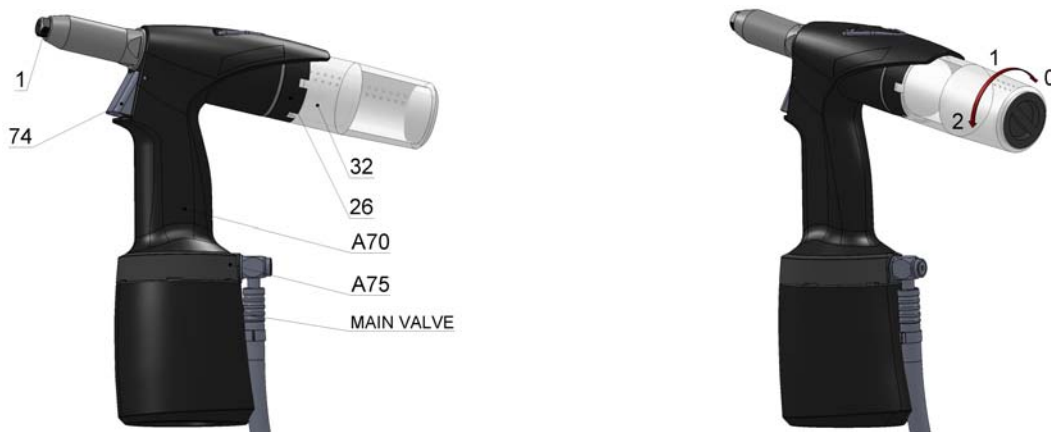

Fig.1
The manufacturer equipped the tool with a nose-piece /fig.1 – pos.1/ for a rivet Ø 6.4 monobolt. Riveting with blind rivets of different diameters (further on referred to as BR) requires use of appropriate nose-pieces /fig.1 – pos.1/ that are located in the accessories casing of the tool.
Replacement of nose-pieces: Connect the tool to the source of compressed air, depress the trigger and screw out the nose-piece /fig.1 – pos.1/ with a spanner no. 12. Screw on a new nose-piece /acc. to the chart/ and tighten it. Now you can release the trigger of the tool.
The tool is equipped with revolving air supply /fig.1 – pos.A75/ which enables manipulation with air supply before as well as during tool operation, air hose does not obstruct riveting in any position.
The tool is equipped with multifunction trigger /fig.1 - pos.74/ which enables following: